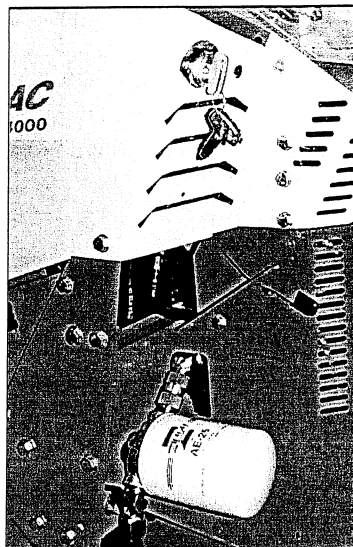

Figure 40
1) A 25-micron (suction) non-bypass filter located above the operator's left foot on the front frame of the tractor (**Figure 40**). Part # 21.001